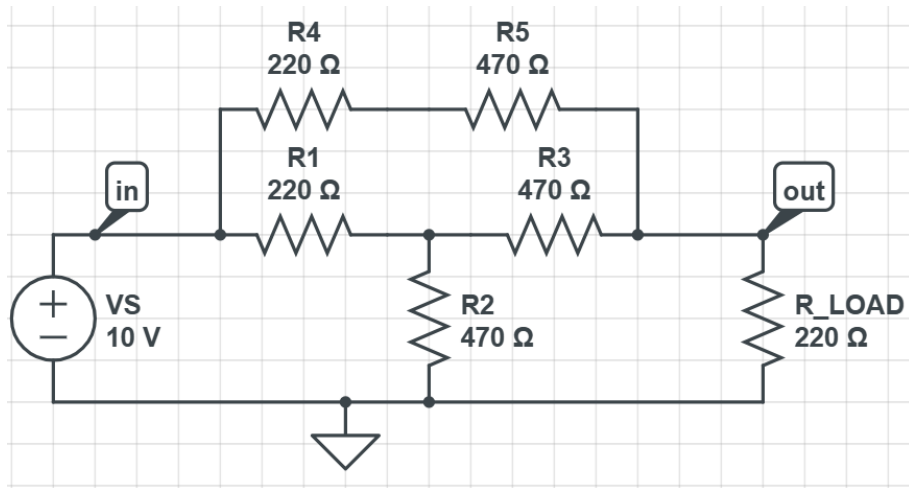

Figure 3.6.1: Circuit for KVL verification
1. Connect the circuit as shown in Fig. 3.6.1 .
1. Connect the circuit shown in Fig. 3.6.1 .